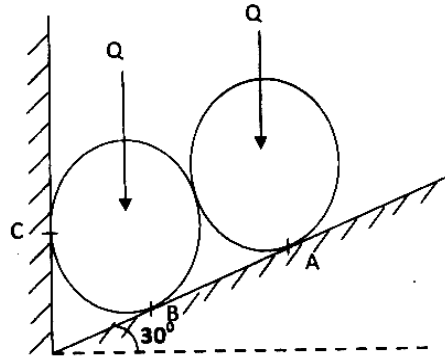

Fig. 3
- (b) Two identical rollers each of weight $Q=100\text{ N}$ are supported by an inclined plane and a vertical wall as shown in Fig. 3. Assuming smooth surface, find the reactions at A, B, and C.